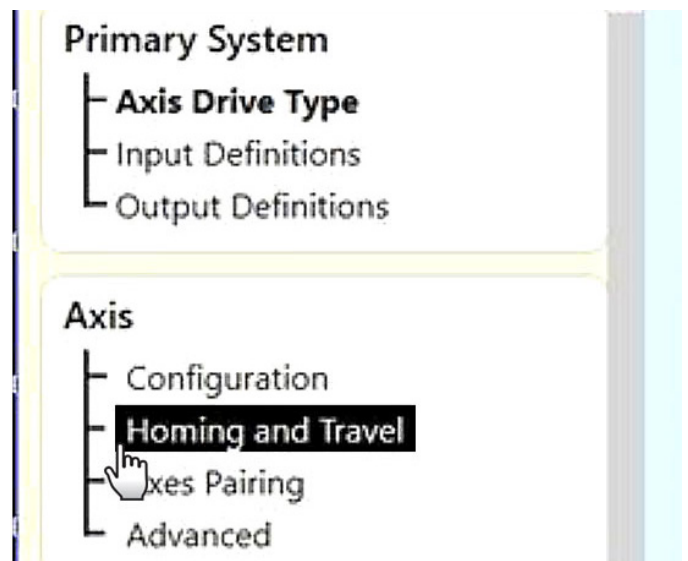

FIGURE 3
- B. When the Acorn Wizard page comes up, click on “Homing and Travel” (see Figure 3).